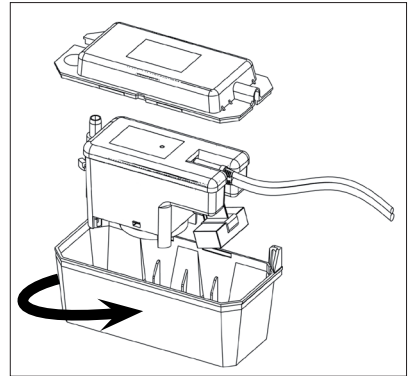

Fig.8
**The pump must be installed in its specific reservoir (Fig. 8), or in a reservoir with a maximum height of 70 mm. (Fig. 7)**